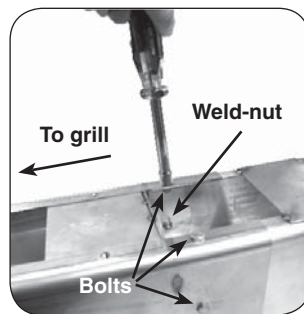

Fig. 3-1
1. Attach the extension to the bottom of the grill post so that the open portion is toward the back of the grill and the five (5) holes in the extension line up with the five (5) weld-nuts in the post.
2. From outside the joined post and extension, insert one of the 1/4 x 20-5/8" bolts (supplied) into each of the five (5) bolt holes and tighten each using a 7/16" socket driver or wrench (see Fig. 3-1).